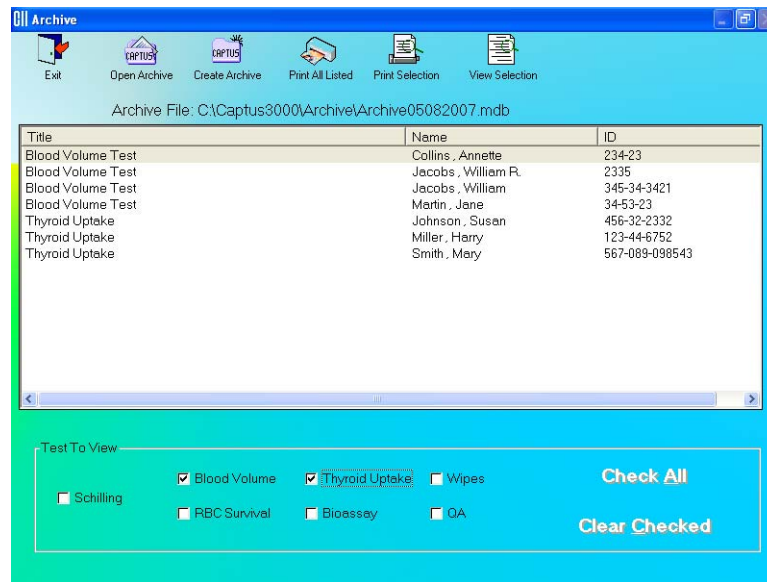

Figure 14-5
2. Next, click in the check box of one or more tests to select the ones you wish to view. The records from these tests will appear in the box. For example, in the Figure 14-5 below, only Blood Volume and Thyroid Uptake tests are checked and therefore, only results from these tests appear in the box.